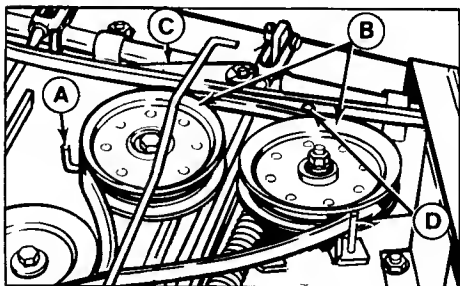

Figure 38. Mower Belt Stops - 42" Mower
Right Idler Pulley Belt Stop. Make sure the long side of the right belt stop (A, figure 38) is inserted in idler pivot bracket slot (C). There is no adjustment.